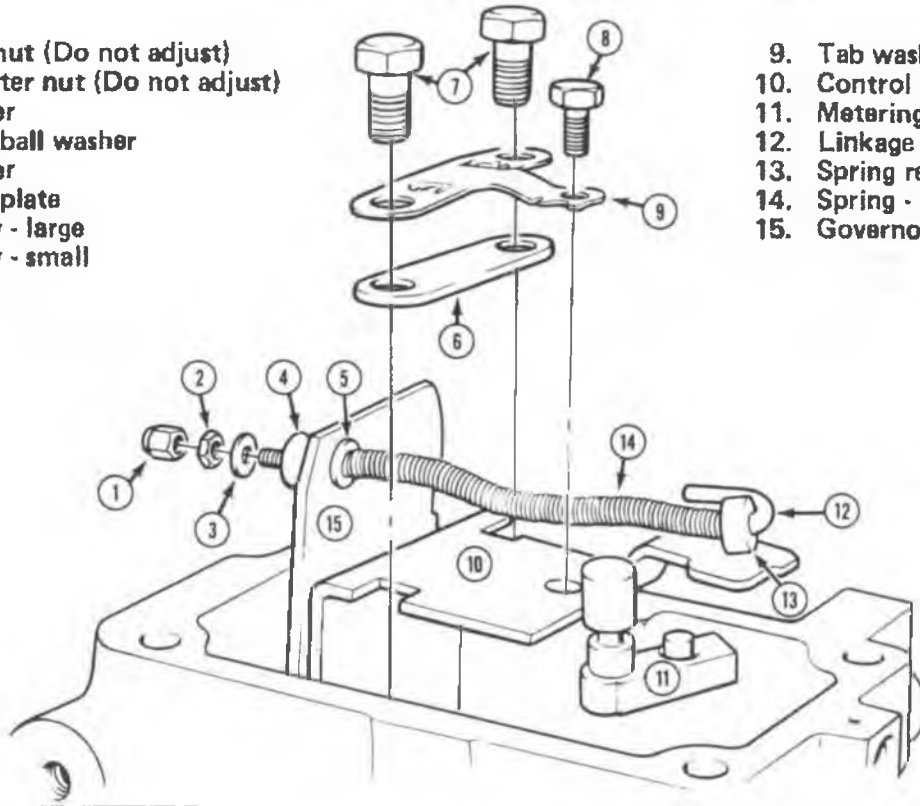

Fig. 3-17 View of Governor Arm and Control Bracket
6. Unlock the tabs on the control bracket tap washer (Fig. 3-17).
23. Make certain that the step on the governor sleeve is pointing up, then install as an assembly, the governor arm, control bracket, metering valve and spring linkage into the pump housing (Fig. 3-17). Insert the metering valve into the valve bore in the hydraulic head and at the same time locate the governor arm on the thrust sleeve.
24. Install the keep plate and a new tap washer on the governor control bracket and torque two larger screws to 7 N·m (60 in. lbs.) and the smaller to 2 N·m (20 in. lbs.). Bend over the lock tabs and check that the linkage moves freely (Fig. 3-17).